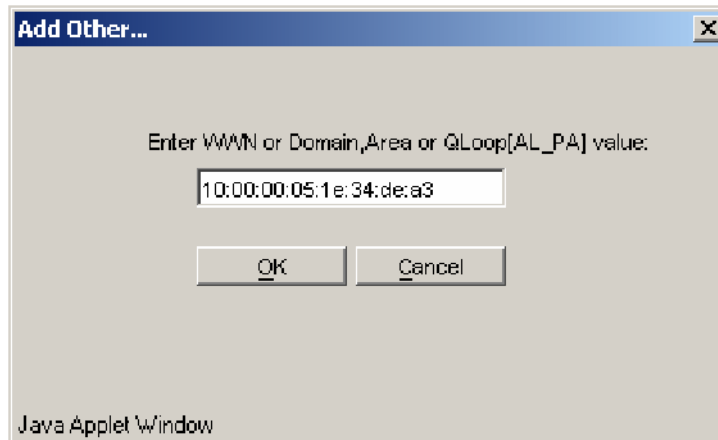

Figure 5-37 Entering the WWN of the switch to define the alias
5. Enter the WWN (License ID) (Figure 5-37) of the SAN32B and click **OK**.